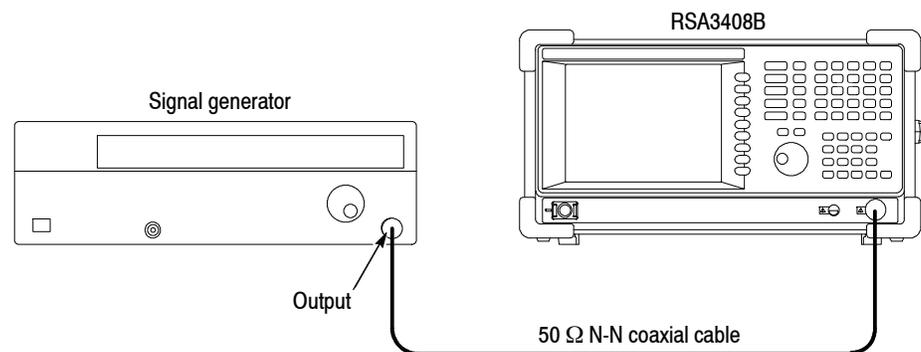

Figure 4-12: Test hookup
- b. *Hook up the signal generator:* Connect the generator output through a 50 Ω N-N coaxial cable to the analyzer **INPUT**. See Figure 4-12.